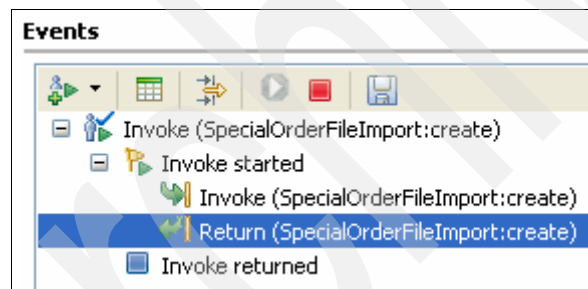

Figure 4-24 Adapter Import component test completed
6. Wait for the test to complete. The request and response looks similar to Figure 4-24.